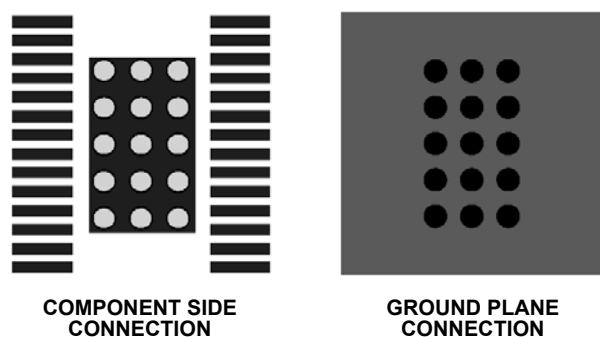

FIGURE 25. PCB LAYOUT - 28-PIN HTSSOP PACKAGE
3. If a multiple layer PCB is used, thermal vias (13 to 25 mil) must be placed underneath the thermal pad to connect to ground plane(s). Do not place thermal reliefs on the vias. Figure 25 shows a typical connection.